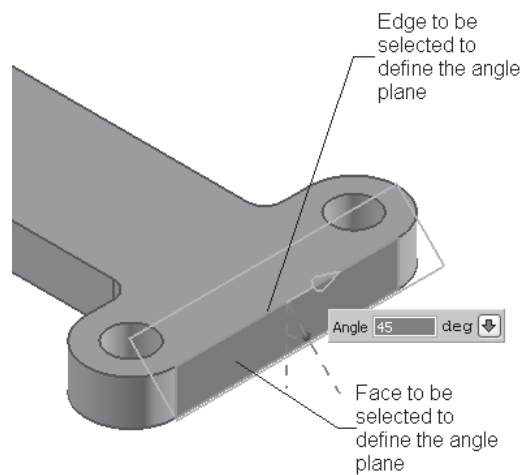

Figure 4-62 Defining a new datum plane
2. Select the right face of the base feature and then the edge shown in Figure 4-62 to define the new datum plane. On doing so, the **Angle** toolbar is displayed.
3. Enter **45** as the value in the toolbar, as shown in Figure 4-62, and choose the **OK** button from the **Datum Plane Icon Options**.